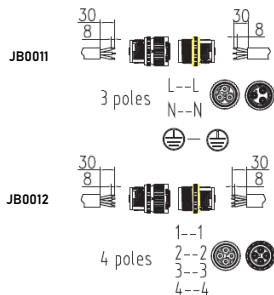

Fig. 2
- Ensuring correct polarity is observed, carefully wire as shown in Fig. 2. Wire into the connector plug and connect socket, slide the shell over the terminations and tighten to 2.5Nm